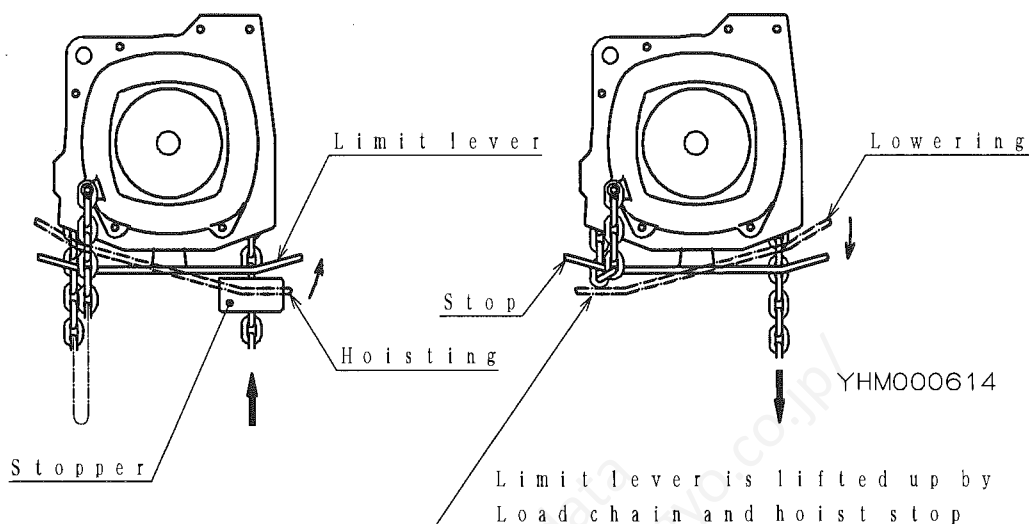

Fig. 3
5.3 Hoisting and Lowering Limit Switches (See Fig. 3)
Ensure these operations are carefully carried out (See Fig.3).